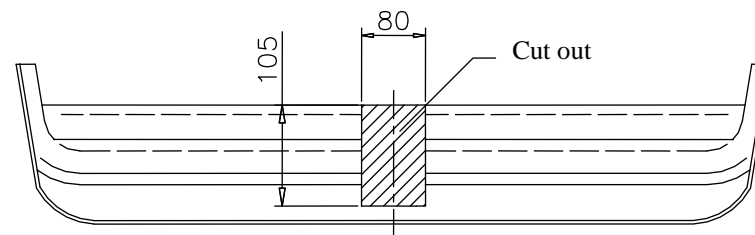

Fig. 2
1. Disassemble the bumper and cut it according to the fig. 2.